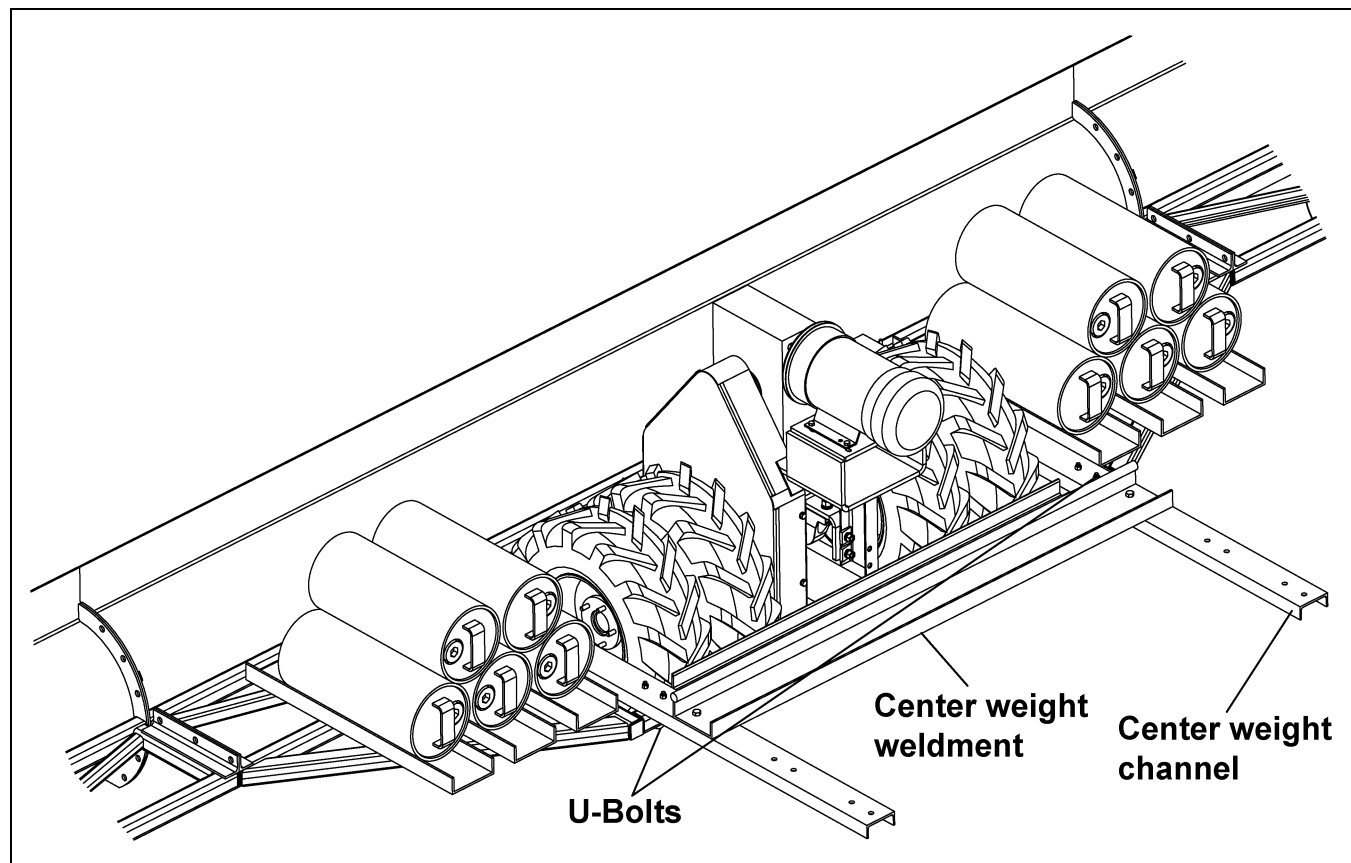

Figure 5T
- B. Attach the center weight weldments to the adjustable center weight channel using eight (8) $\frac{1}{2}$ " x $1\frac{1}{4}$ " bolts, split lock washers and hex nuts. The adjustable center weight has three (3) sets of holes for the center weight weldments to adjust the weights. (See Figure 5T.)